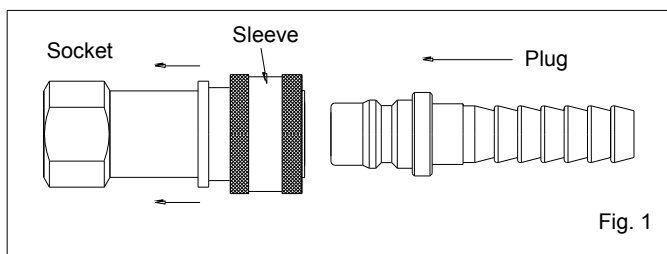

Fig. 1
1. To connect, push back socket sleeve (Fig. 1).